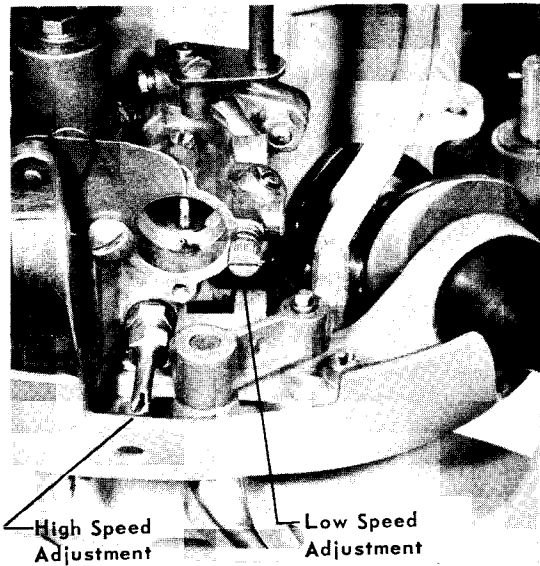

Figure 1. High Speed Adjustment
1. Slowly turn high speed adjustment screw inward (clockwise) until motor starts to slow down (mixture becoming too lean). (Figure 1)